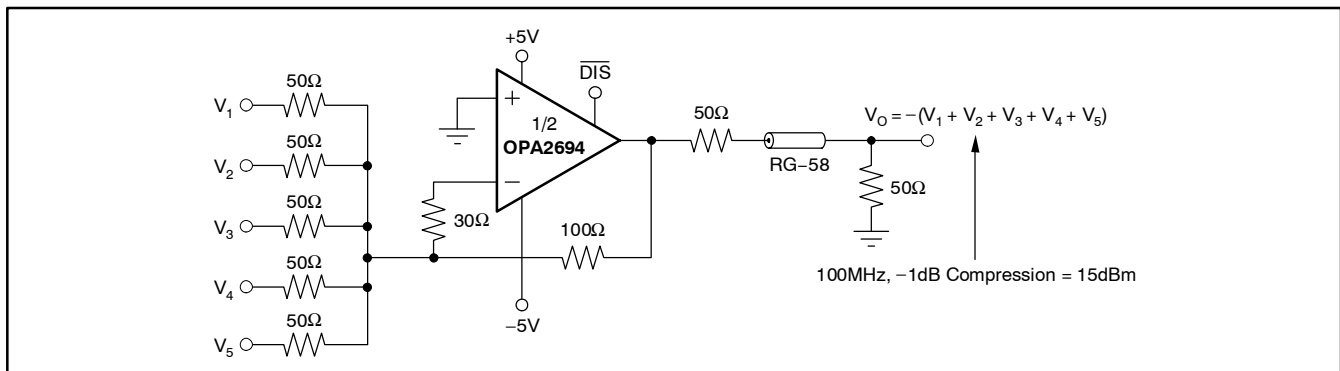

Figure 4. 200MHz RF Summing Amplifier
gain), wideband inverting summing stages may be implemented using the OPA2694. The circuit in Figure 4 shows an example inverting summing amplifier, where the resistor values have been adjusted to maintain both maximum bandwidth and input impedance matching. If each RF signal is assumed to be driven from a  $50\Omega$  source, the NG for this circuit will be  $(1 + 100\Omega/(100\Omega/5)) = 6$ . The total feedback impedance (from  $V_O$  to the inverting error current) is the sum of  $R_F + (R_i \bullet \text{NG})$ , where  $R_i$  is the impedance looking into the inverting input from the summing junction (see the *Setting Resistor Values to Optimize Performance* section). Using  $100\Omega$  feedback (to get a signal gain of  $-2$  from each input to the output pin) requires an additional  $30\Omega$  in series with the inverting input to increase the feedback impedance. With this resistor added to the typical internal  $R_i = 30\Omega$ , the total feedback impedance is  $100\Omega + (60\Omega \bullet 6) = 460\Omega$ , which is equal to the required value to get a maximum bandwidth flat frequency response for  $\text{NG} = 6$ .
The total impedance going into the inverting input may be used to adjust the closed-loop signal bandwidth. Inserting a series resistor between the inverting input and the summing junction will increase the feedback impedance (denominator of Equation (2)), decreasing the bandwidth. This approach to bandwidth control is used for the inverting summing circuit of Figure 4. The internal buffer output impedance for the OPA2694 is slightly influenced by the source impedance looking out of the noninverting input terminal. High source resistors will have the effect of increasing  $R_i$ , decreasing the bandwidth.